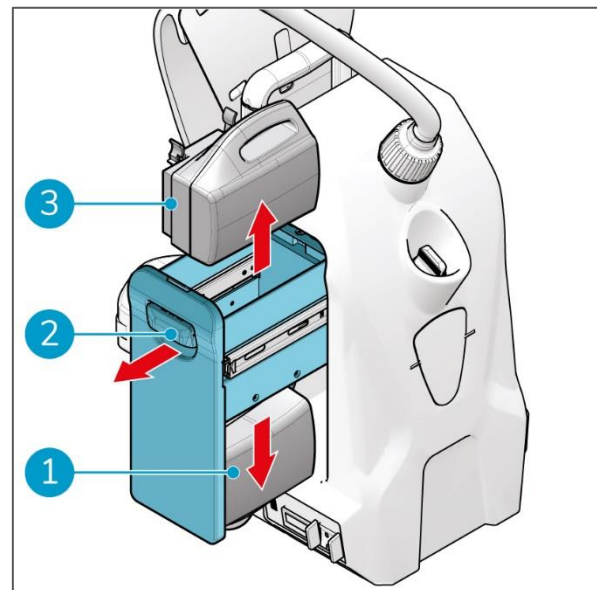

Figure 16
3. Open the battery holder (Figure 16, pos 2) at the side of the i-cover 2.5.
4. Remove the blue coded battery from the blue battery slot at the top (Figure 16, pos 3).
5. Remove the gray coded battery (option) from the gray battery slot at the bottom (Figure 16, pos 1).
6. Close the battery holder (Figure 16, pos 2).